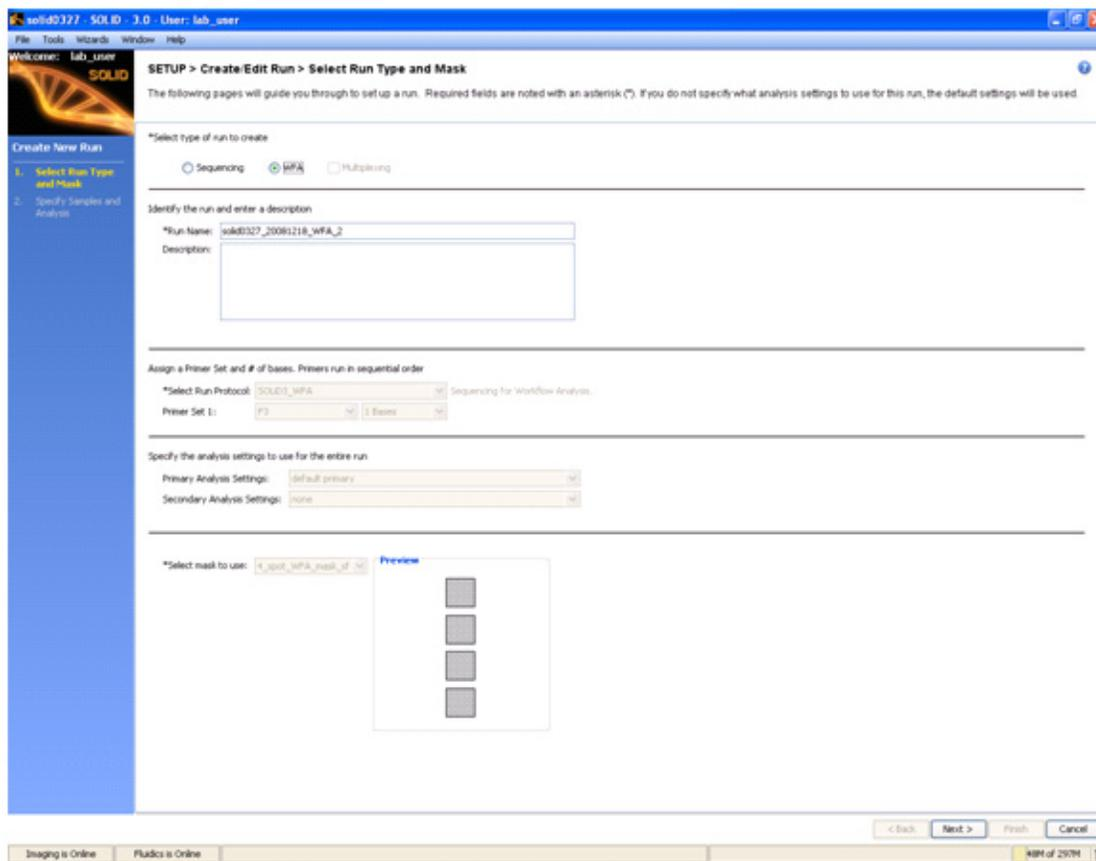

Figure 34 Complete the information in the Select Run Type and Mask pane.
2. Complete the information in the Select Run Type and Mask pane (see Figure 34 on page 47):